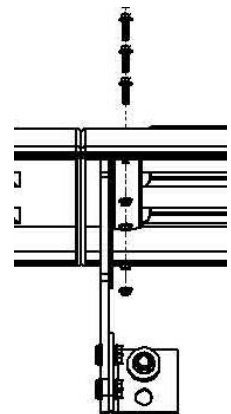

Figure 9
H. Drill three 5/16" holes through the fender using the holes in bracket 100212 as a guide (Figure 9).